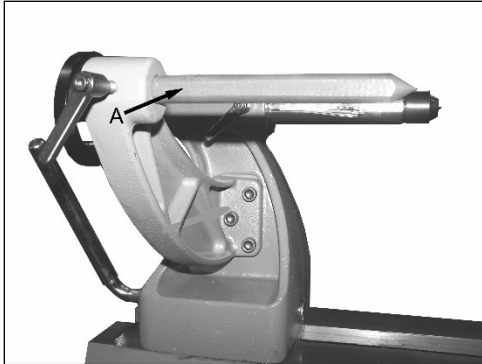

Figure 11
6. Mount the second comparator bracket to the tailstock as shown in Figure 11 using the supplied 6mm Allen head bolts. As well, the comparator pin A has been installed. Notice the flat part of the pin faces the bolt of the lock handle.